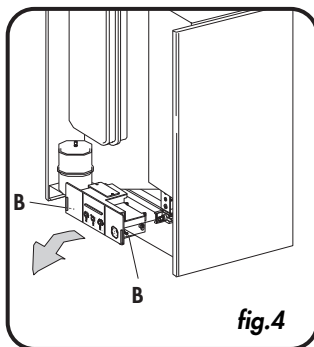

fig.4
- To gain access to the electrical and electronic components loosen screws **B** and pull the entire panel outwards (fig. 4). Tilt it downwards and undo the screws **C** on the cover **D**